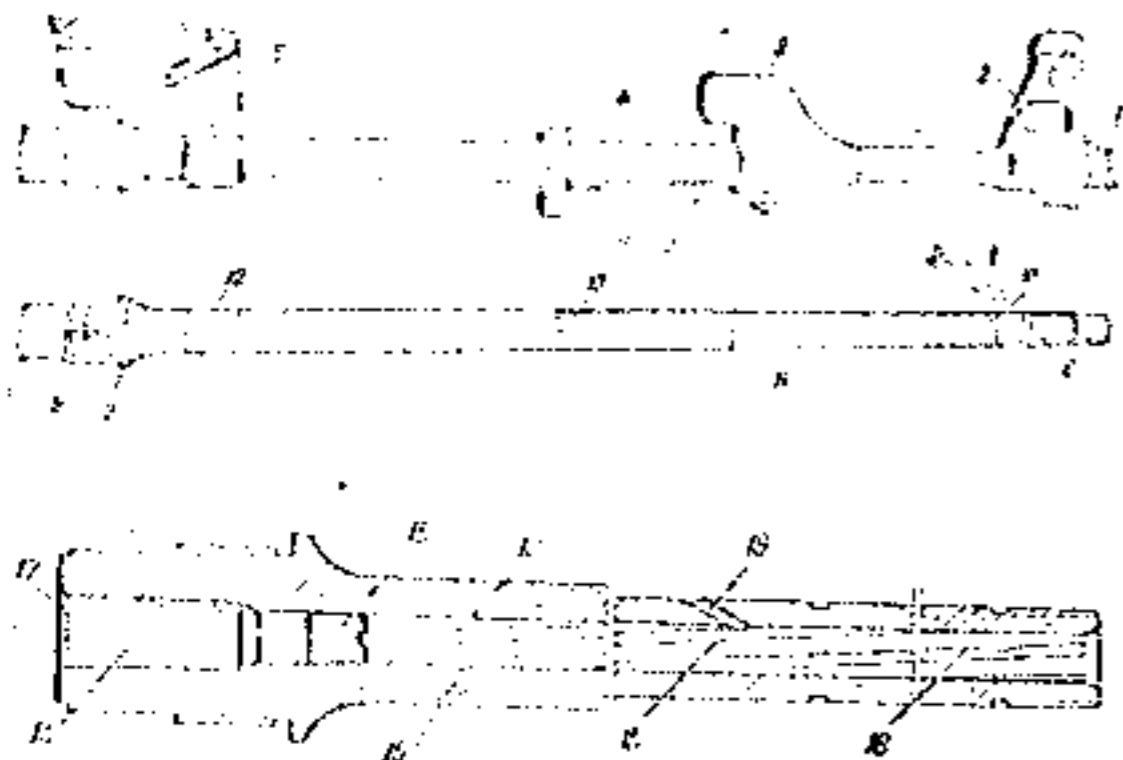

Figure 4. Barrel (A - overall view; B - section).
The barrel (fig.4) serves to direct the flight of the bullet. To the barrel are attached the barrel bushing (1), the front sight base (2), the gas cylinder (3), the fore end band (4), and the rear sight base (5).
The fore end band is locked on the barrel when the lock lever is turned to the rear, and the round portion of the lock enters recess (13) in the barrel (see fig. 4). The fore end band can be moved along the barrel when the lever is moved forward and the lock recess is turned towards the barrel.